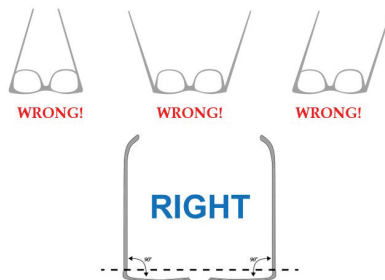

FIG. 5 Temples should be at 90 to 95 angle to frame front
**Temples parallel to each other and perpendicular (at a 90-degree angle) to the frame:** Temples should be parallel to each other and at right angles to the frame front (Fig. 5). On occasion, you may be required to bow the temples slightly to fit frames on patients with wide heads. Your goal should be to always create a fitting triangle with the frame touching only three points on the patient's face/head, the bridge of the nose and the sides of the head behind each ear. Practice this with an experienced optician.